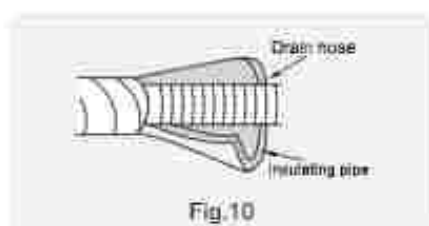

Fig.10
- (1) Add insulating pipe in the indoor drain hose in order to prevent condensation.
- (2) The plastic expansion particles are not provided. (As show in Fig. 10)